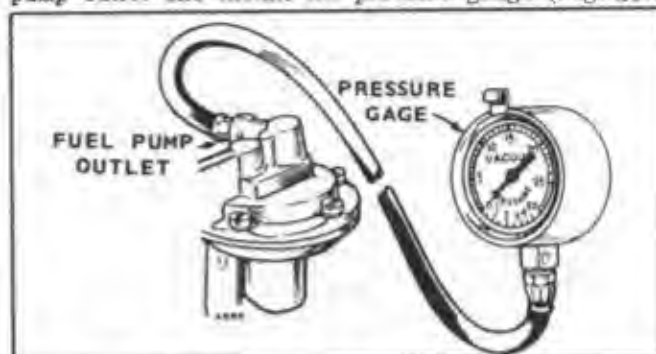

Figure 21. Fuel Pressure Gauge
**Testing:** If the transfer pump delivers fuel, test it with a pressure gauge or manometer. Perform these tests before removing the pump from the engine. Remove the pump outlet and install the pressure gauge (Fig. 21).
with the rocker arm pin hole and drive in the pin. The priming lever must be in its lowest position, as shown in Fig.21, when installing the rocker arm.